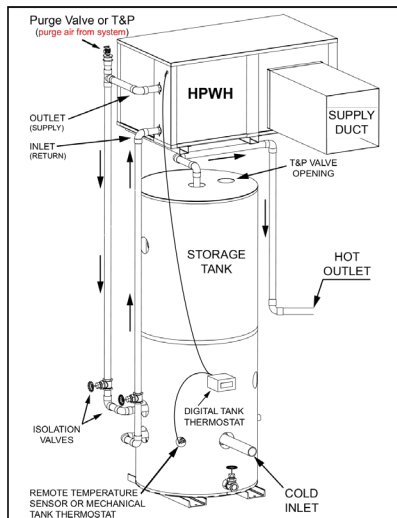
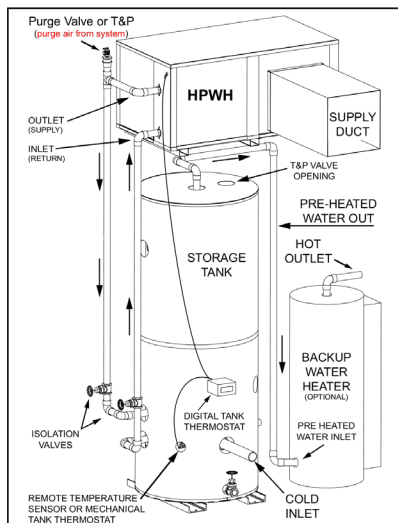

FIGURE 7
FIGURE 8
Water piping must be installed in accordance with the instructions in this manual and all local plumbing codes having jurisdiction. See Figure 7 and Figure 8 on page 16 and the Piping Diagrams on page 29 as a reference for these instructions.
4. The cold water supply must be connected directly to the storage tank at a low connection port on the storage tank on single tank and two tank preheat piping configurations for optimal efficiency. See Figure 7 and Figure 8 on page 16.
15. When the HPWH unit is installed above the storage tank install a Tee fitting at a high point in the outlet water line leaving the unit. Install a purge valve, or if required by local code, a T&P valve (temperature and pressure relief) in a branch of the Tee fitting that can be used to purge air from the HPWH unit during start up. See Figure 7 and Figure 8 on next page.
The HPWH must be plumbed to storage tank. The maximum stored water temperature the HPWH unit can produce in the storage tank is 150°F (66°C). Figure 7 shows a typical storage tank piping configuration. Tank ports must be large enough to handle the peak water flow rates through the water heating system. See Piping Diagrams on page 29 for detailed piping diagrams.
When water temperatures above 150°F (66°C) are required the HPWH and storage tank are piped in series (upstream) with a backup water heater. See Water Temperature on page 8. The backup water heater will raise the temperature of the preheated water to the final system temperature required. Figure 8 shows a typical preheat piping configuration.
8. Ensure the cold water supply is not connected directly to or Tee fitted to the inlet water line on the HPWH. See the Service and Installation Notes for Inlet & Outlet Water Temperature on page 8. See Figure 7 and Figure 8 on page 16.